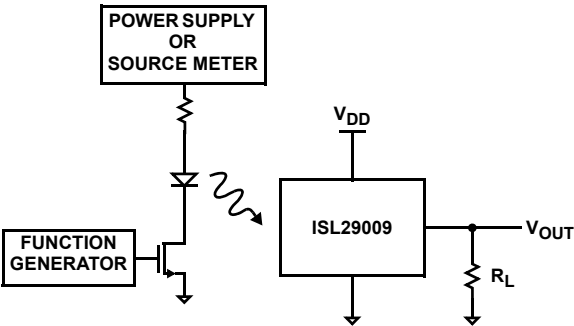

FIGURE 1. TEST CIRCUIT FOR RISE/FALL TIME MEASUREMENT
- 1. Switching time measurement is based on Figures 1 and 2.